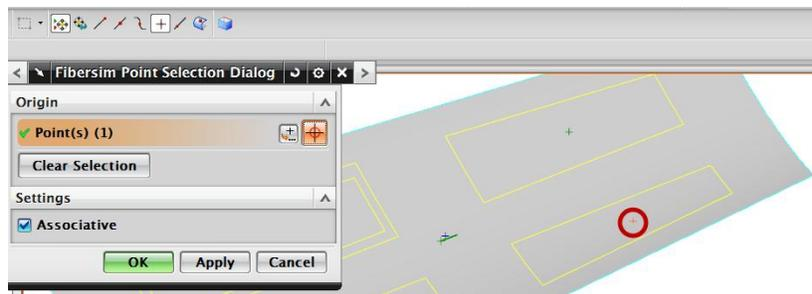

Figure 7–18
10. Repeat the steps 8 and 9 for the **VC002** core, selecting the point in the middle of **Core004** curve as shown in Figure 7–19.